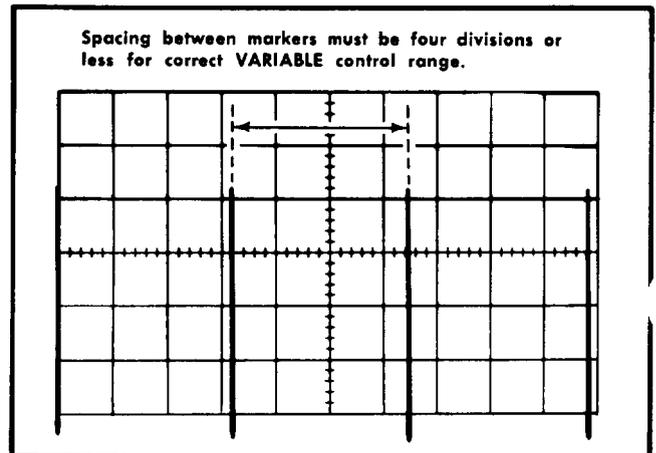

Fig. 6-44. Typical CRT display when checking A and B VARIABLE control range.
- e. CHECK-CRT display for four-division maximum spacing between markers (indicates adequate range for continuously variable sweep rates between the calibrated steps; see Fig. 6-44). UNCAL A OR B light must be on when A VARIABLE control is not in CAL position.